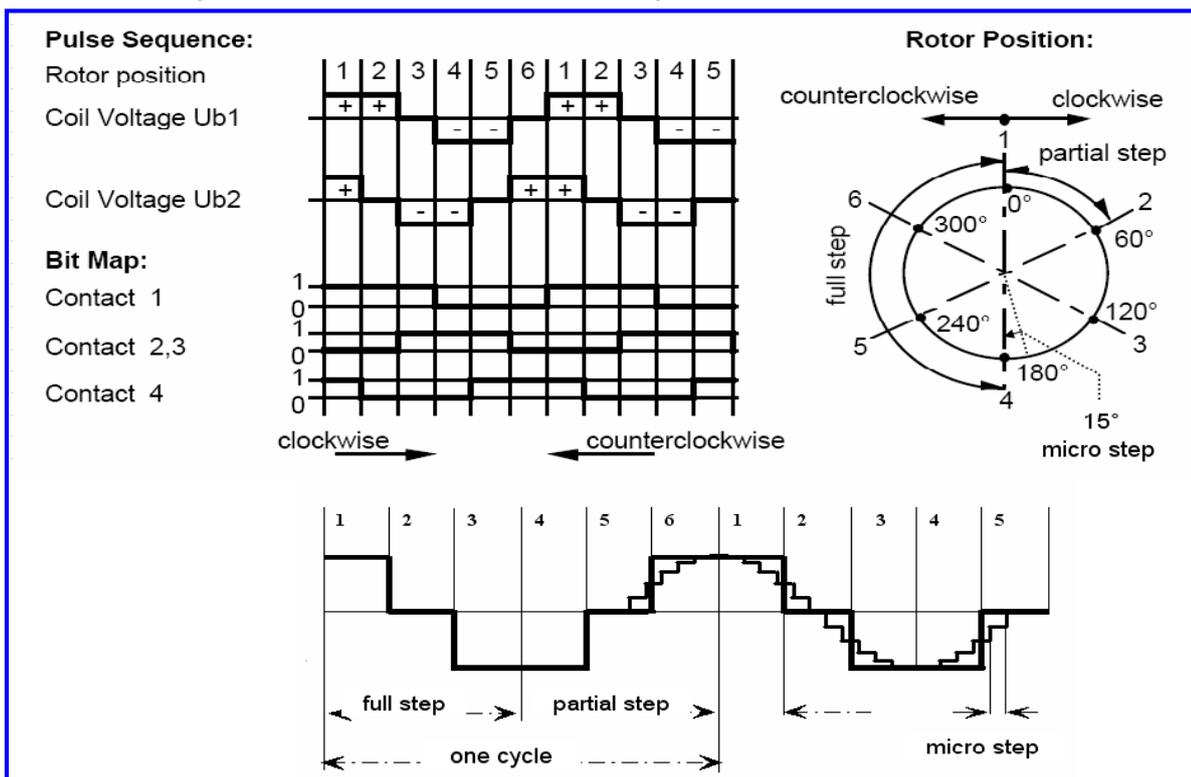

Fig.11
--As mentioned earlier, a partial step is an angular rotation of $1/3^\circ$ of the motor shaft or an angular rotation of 60° of the rotor. The motor also can be driven directly by micro step, and a micro step is an angular rotation of $1/12^\circ$ of the motor shaft or an angular rotation of 15° of the rotor (see Fig.11). The micro stepping allows a continuous smooth movement of a pointer if the motor is used as a pointer driver.